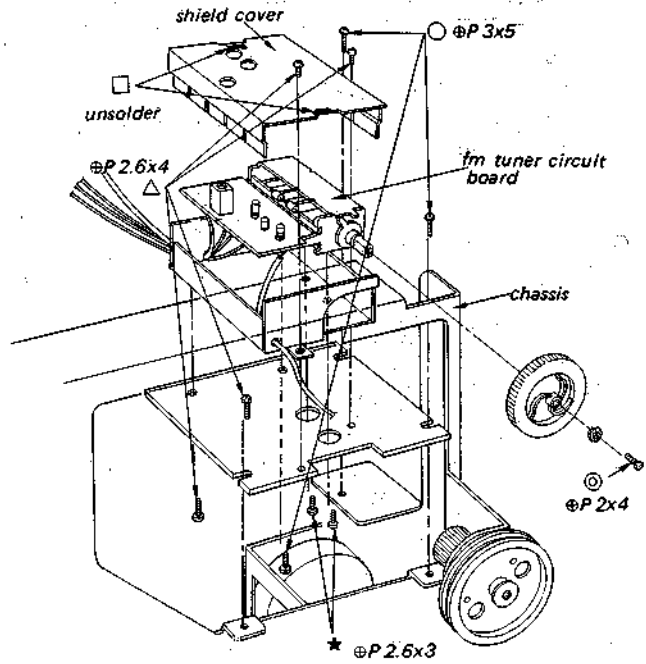

Fig. 2-7
2. Remove the seven screws marked  $\circ$  and  $\triangle$  in Fig. 2-7.
6. Take out the shield cover and fm tuner circuit board as illustrated in Fig. 2-7.